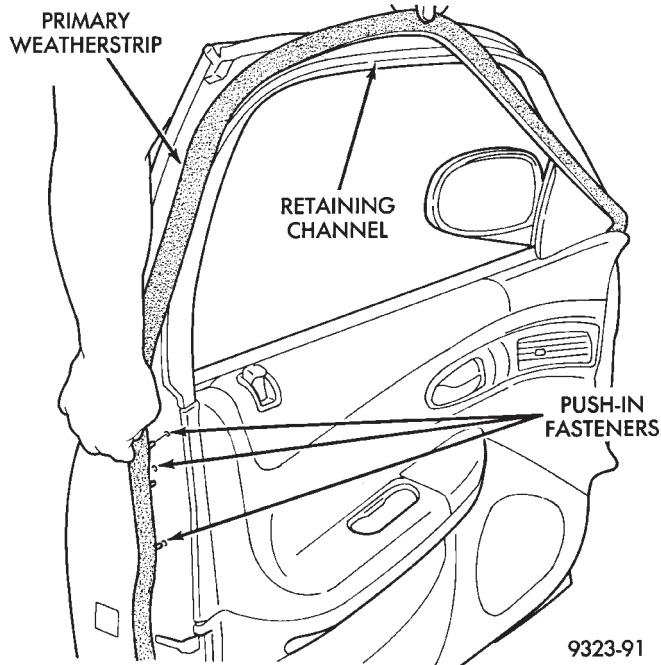

Fig. 50 Door Primary Weatherstrip—Typical
- (1) Open rear door.
- (2) Pull primary weatherstrip from channel around upper window frame.
- (3) Using a fork-type prying tool, disengage push-in fasteners holding weatherstrip to lower door end frames and bottom panel (Fig. 50).
- (4) Separate primary weatherstrip from door.